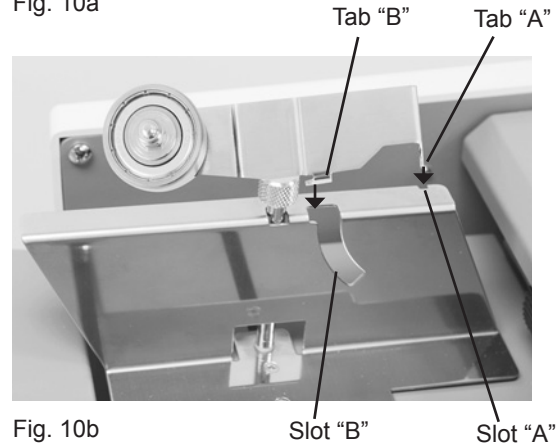

Fig. 10b
2. Attach the cross fold paper guide onto the feed tray paper guide (Fig. 10b) and lower guide.